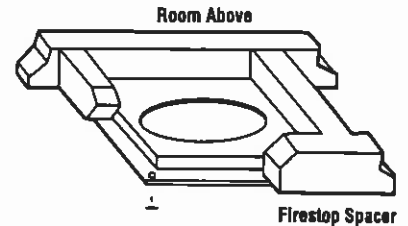

Figure 19
**Step 3.** Position appropriate firestop spacer at ceiling and nail temporarily with two (2) 8d nails. Use flat firestop spacer, Model F8FS-2, if chimney penetrates ceiling vertically. If chimney penetrates ceiling at 30° angle (offset chimney), use 30° firestop spacer, Model F8FS30-2. Use one nail on opposite sides to hold firestop spacer in position. Nail permanently, using at least two (2) more 8d nails, after chimney sections have been assembled through the firestop spacer and after any necessary adjustments have been made. Firestop spacer must be secured by at least four (4) 8d nails when completely installed.
**Note:** If there is a room above ceiling level, firestop spacer must be installed on the bottom side of the ceiling. If an attic is above ceiling level, firestop spacer must be installed on top side of ceiling joist (Figures 19 and 20).